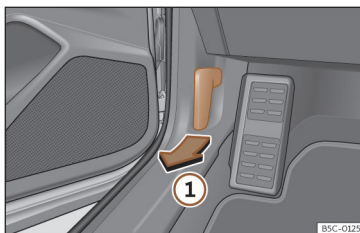

Fig. 214 Release lever in the driver's footwell area.
- Open the door and pull the lever that is underneath the instrument panel >>> **Fig. 214** ①.